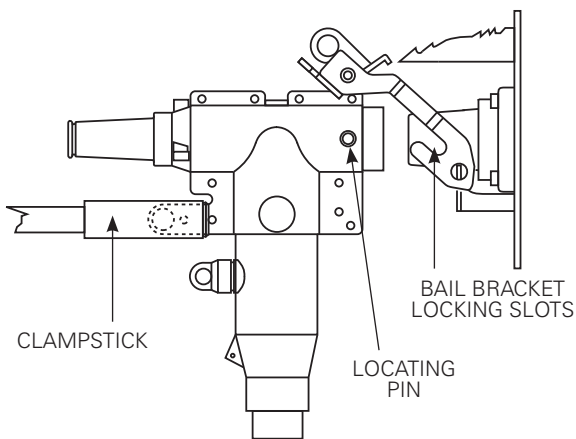
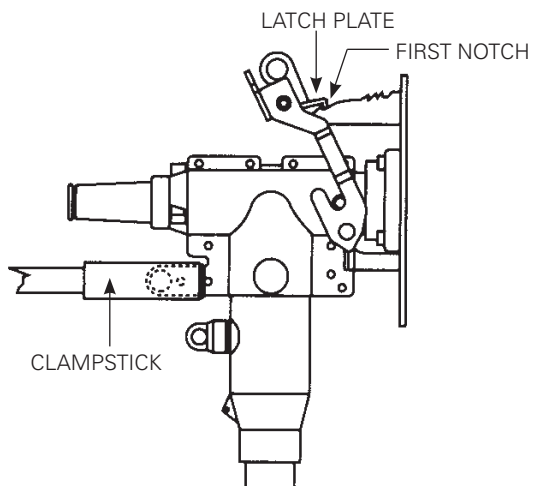

Figure 11. Line illustration of full engagement of push plate.
Figure 12. Line illustration of beginning engagement of latch plate.
- Move deadbreak connector to apparatus bushing, engaging shroud locating pins in bail bracket locking slots (refer to Figure 11), and push until latch plate engages first notches. (Refer to Figure 12.)